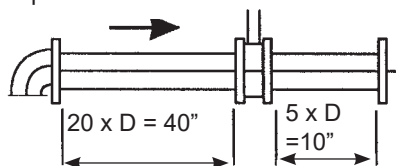
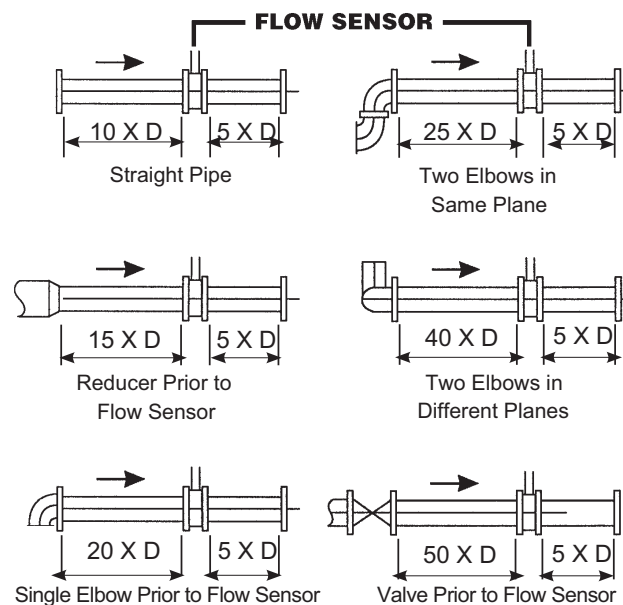

Figure 42.
Figure 40.
To properly measure flow accurately, the paddlewheel flow sensor(s) must be installed with a certain amount of straight pipe both before and after the paddlewheel flow sensor—see Figure 40 - Figure 42. Turbine meters do not have the same installation requirements and therefore may be positioned immediately following the Hi-Flo® 3e valve if the system is a single or parallel configuration or at any point in the common outlet header for alternating configurations.
- The piping that the flow sensor is being connected to should be the same diameter as the mounting fitting. The flow sensor must also be located in a free-flowing straight run of pipe. This straight run includes the upstream piping and downstream piping of the flow sensor (Figure 40).
The examples in Figure 40 – Figure 42 are intended as guidelines for the proper length of straight pipe required both upstream and downstream of the flow sensor installation point. These recommendations are minimum requirements.